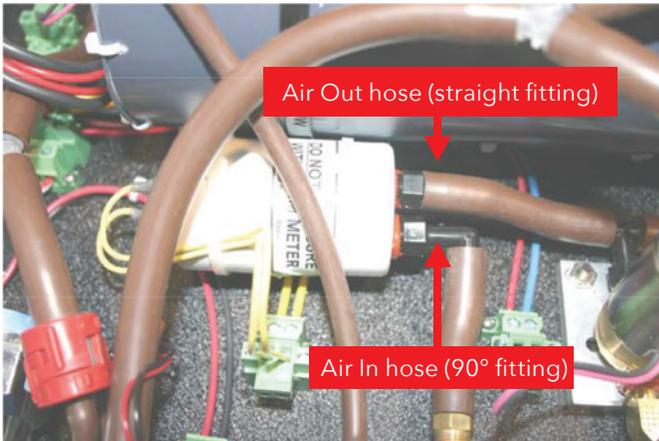

Figure 4. THE TWO HUMIDITY SENSOR AIR HOSES.
- Using a tubing wrench or vacuum tubing pliers, carefully remove the two air hoses connected to the existing humidity sensor. Try to not move the fittings or break the seal. Refer to Figure 4.